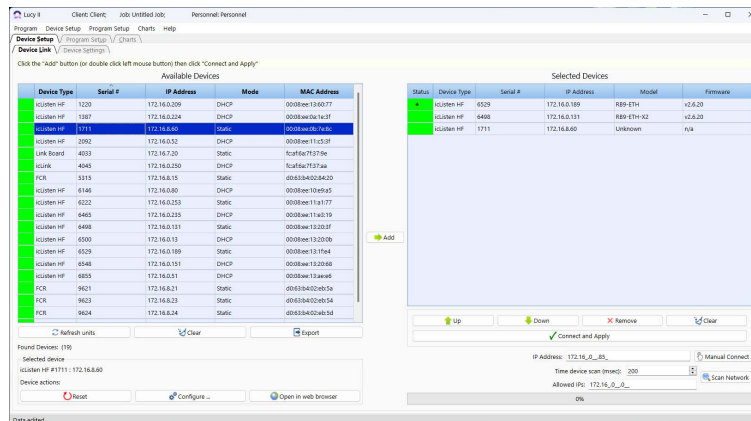
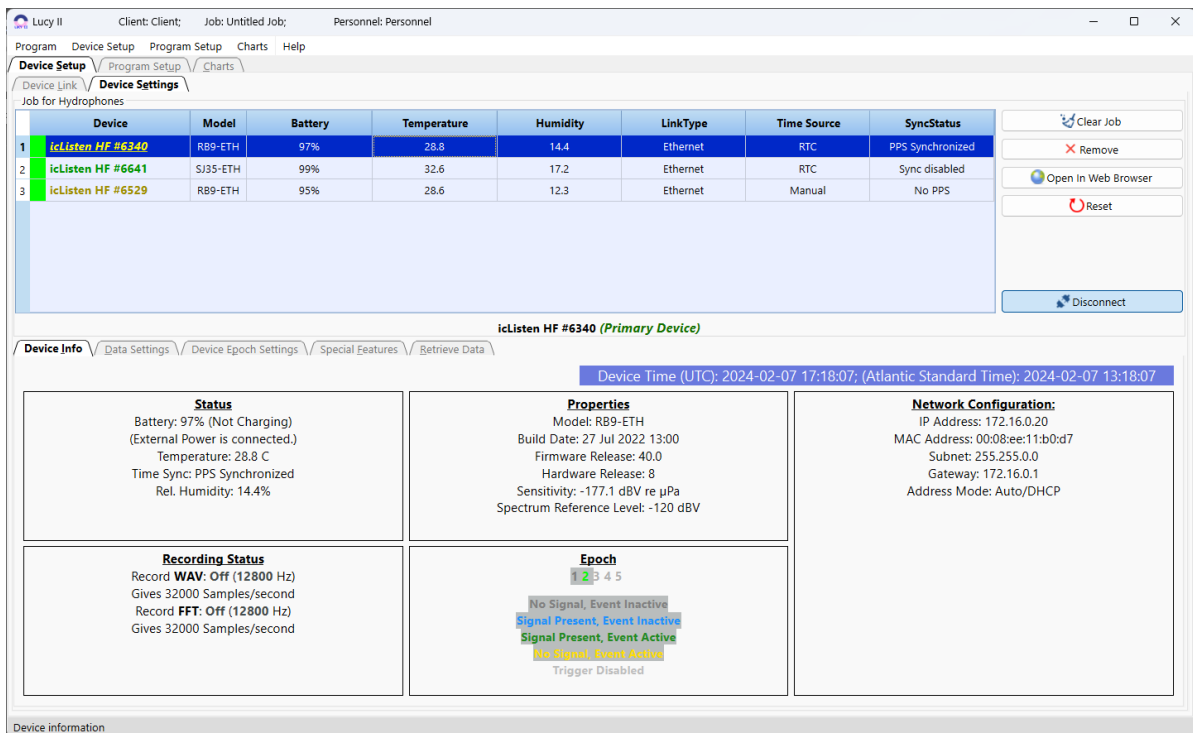

Figure 1-3 Device Link – Selecting an Available Device to Connect
Figure 1-4 Device Setup – Device Settings
8. Click on the “**Add**” button or double click on the hydrophone row. The device will be added to right table (Selected Array Devices) (Figure 1-3).
10. Click on the button “**Connect and Apply**” (Figure 1-3). The program will open to the **Device Settings** Tab to select and update settings for your deployment (Figure 1-4).
14. The program will return to the **“Device setting”** tab (Figure 1-4).